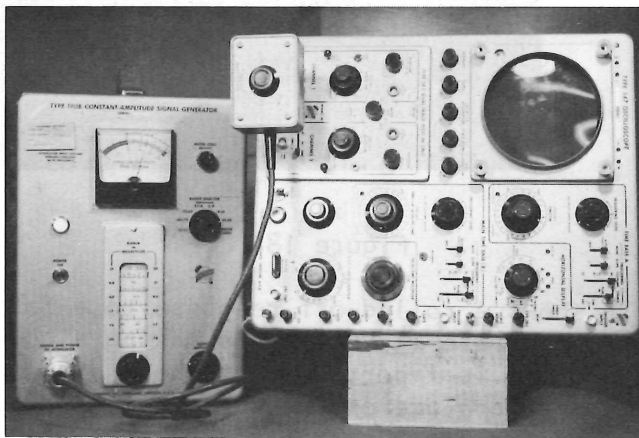

Figure 19
2. Connect a 190 B constant amplitude signal generator to the CH 1 input connector. See Figure 19.